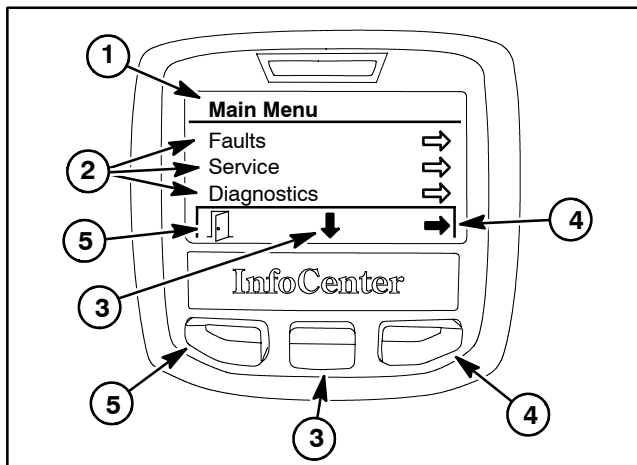

Figure 19
The main menu screen can be accessed from the InfoCenter main information by pressing and releasing the menu/back button (left button) on the display twice. Once at the main menu screen (Fig. 19), navigation to the five (5) different menu items can occur. Pressing the move to menu item button (middle button) allows a different menu item to be highlighted. Selection of the highlighted item is completed by pressing the choose menu item button (right button).